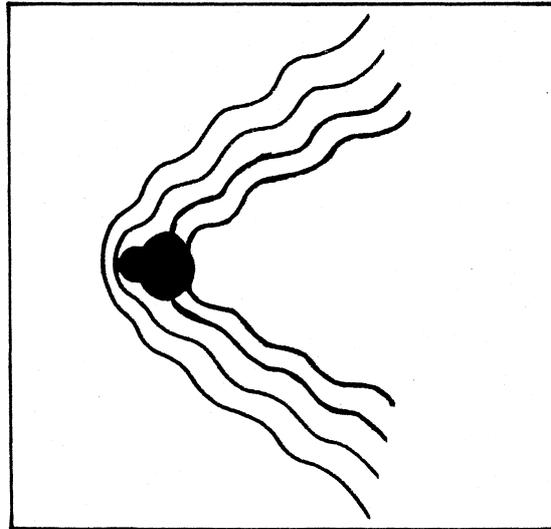

Figure 3:1—Surface Ripple
- a. **Warning Signs**—Signs indicating an underwater obstruction can vary from a 'V' shaped ripple on the surface, which may be caused by a fence post or similar object, to a stationary wave caused by a rock or large fixed object. (See Figure 3:1).